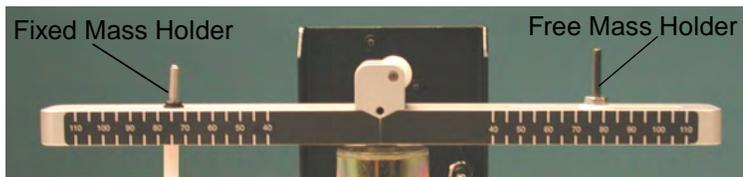

Figure 3: Free and Fixed Mass Holders
3. Remove the free mass holder (Figure 3) and measure its mass. To remove the free mass holder, loosen the screw below the rotating arm.